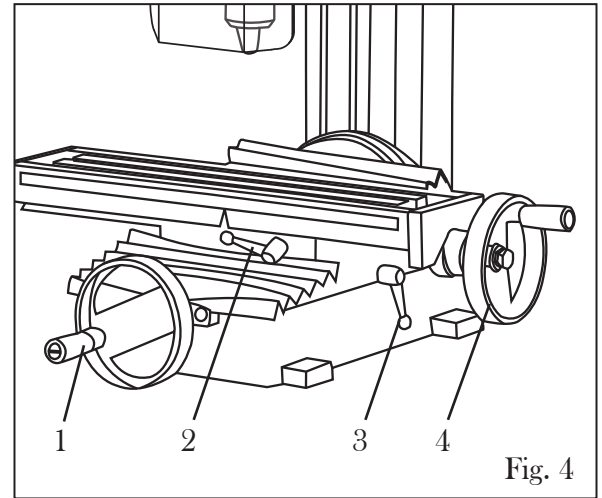

Fig. 4
1. To move the table along the cross (X) axis (left and right), loosen the cross feed lock lever (Fig. 4 - 2), and rotate the cross handwheel (Fig. 4 - 4). Tighten the cross feed lock lever to lock the cross travel.
2. To move the table forward and back along the longitudinal (Y) axis, loosen the longitudinal feed lock lever (Fig. 4 - 3), and rotate the longitudinal feed handwheel (Fig. 4 - 1). Tighten the longitudinal feed lock lever to lock the longitudinal travel.